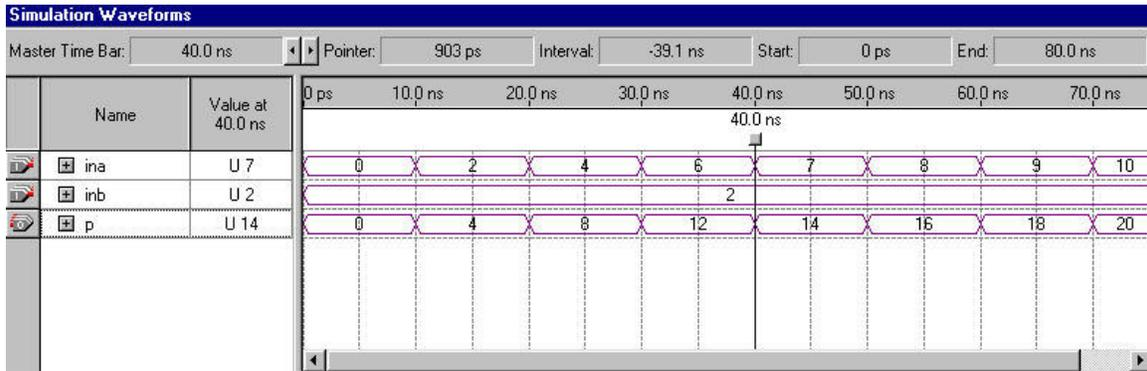

Figure 6-6.
- Check to see if you get the same results shown in Figure 6-6.